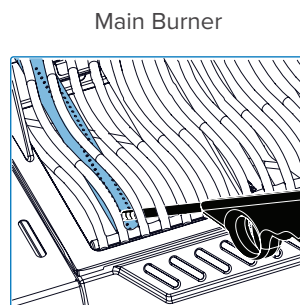

Fig. 12
- If the pilot and burner do not light within 5 seconds, turn the control knob clockwise to the OFF position. Wait 5 minutes for the gas to dissipate. Repeat steps 2 and 3, or light the burner using “Alternative Ignition Instructions (see Fig. 12&13).
3. Turn the corresponding burner knob counter clockwise to the HIGH position until it lights (see Fig. 12).